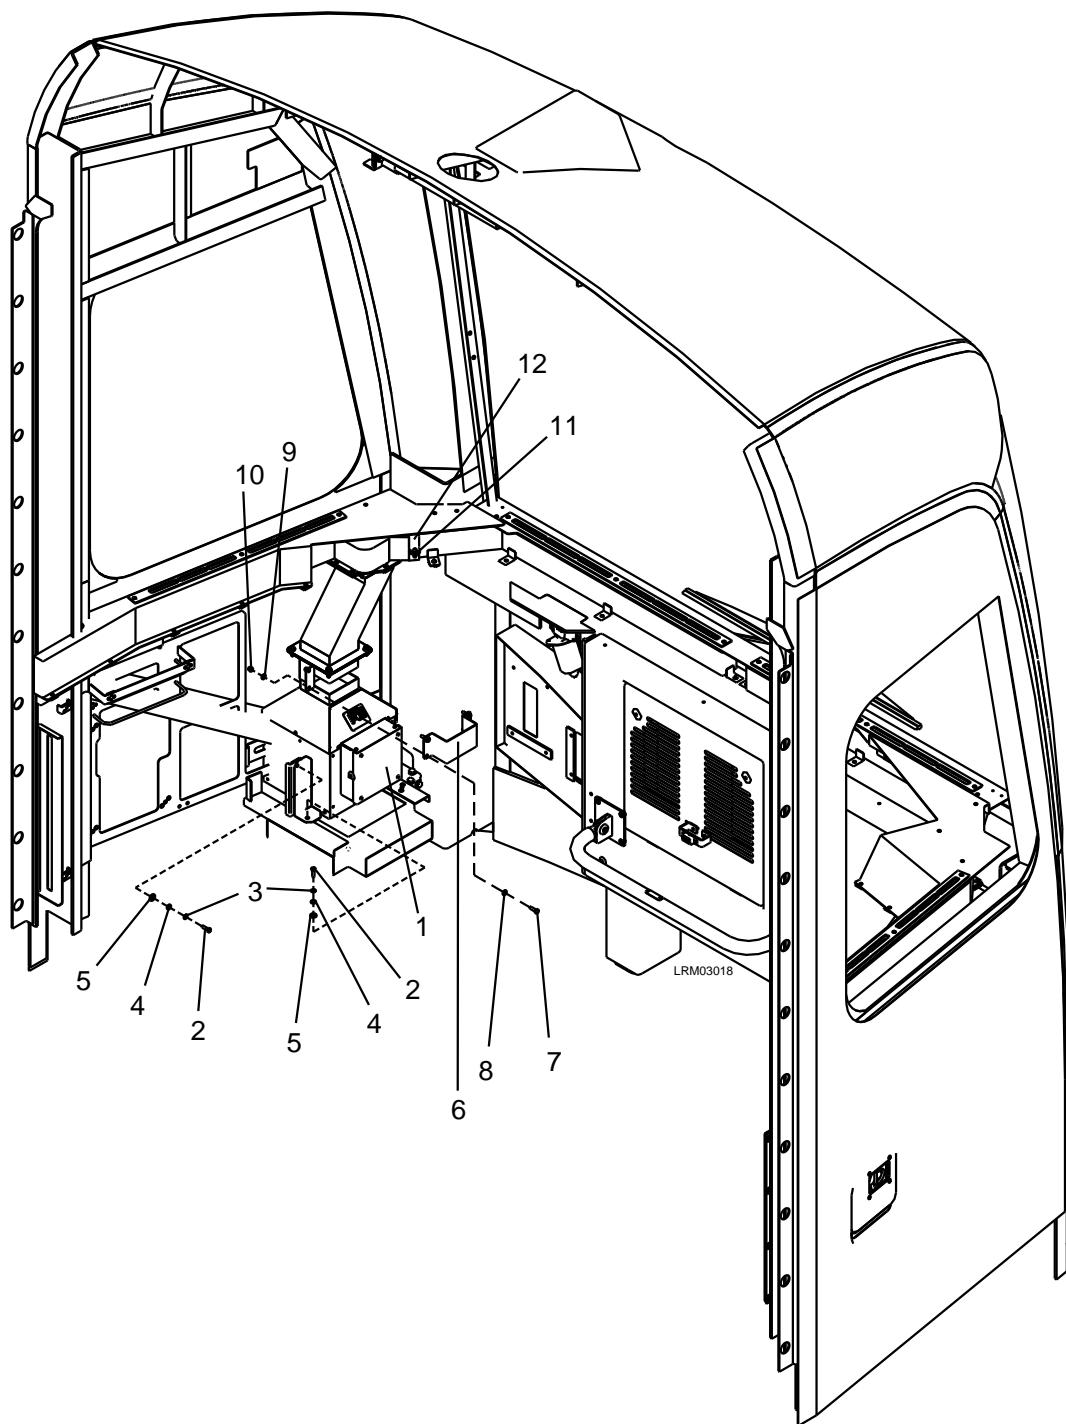

Figure 7-16: Defroster / Demister
1. Unlock the two locks and remove the left cab access panel. See Figure 7-16.
3. Remove the six mounting bolts and remove the master controller to gain access to the Defroster / Demister (1).
4. Remove the two bolts (11) and remove the duct joint (12).
5. Remove the four M6 ESNA nuts (10), M6 plain washers (9), M6 x 20 bolts (7), and M6 plain washers (8).
6. Remove the duct joint (6).
7. Remove the four M6 x 20 bolts (2), M6 lock washers (3), M6 plain washers (4), and special washers (5).
8. Carefully remove the Defroster / Demister (1).